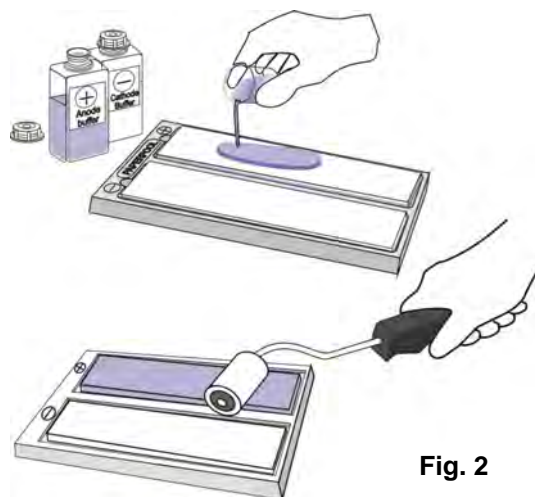

Fig. 2
1. Apply 45 ml of each electrode buffer to the electrode wicks in the compartments of the Paper-Pool (fig. 2), distribute the solution evenly with a roller,